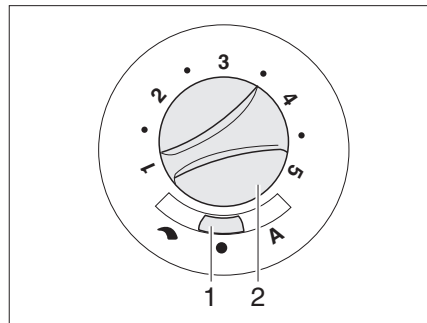

Fig. 108 Operating switch for circulation fan (12 V)
- Set sliding switch (Fig. 108,1) to "●" (manual control) or "A" (automatic operation).
- If "●" (manual control) is set on the sliding switch (Fig. 108,1): Turn the knob (Fig. 108,2) to the required position of the circulation fan.
- Set the sliding switch (Fig. 108,1) to "●" (off). This switch setting has no function in heating operation.